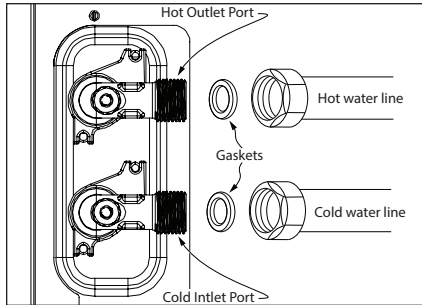

Figure 18 - Water line connections.
- 3** Before connecting the cold water supply line, set the gaskets into the cold water line connection. See Figure 18.